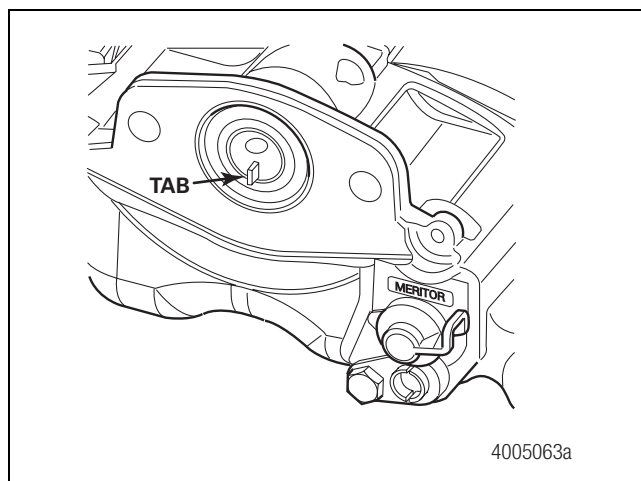
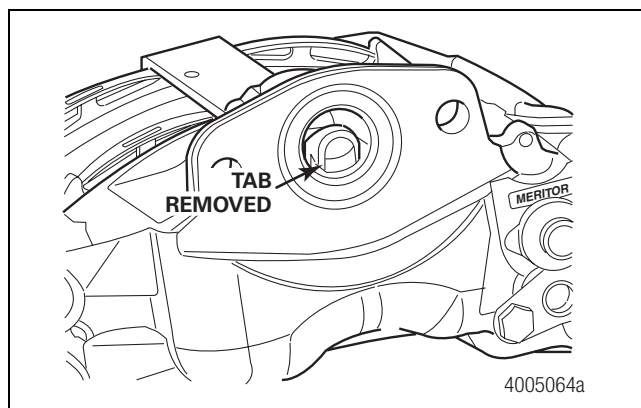

Figure 7.4
Figure 7.5
3. Before you install the air chamber onto the caliper assembly, ensure the perforated transit plug is removed from the caliper chamber seal by pulling the tab. Figure 7.4 and Figure 7.5.